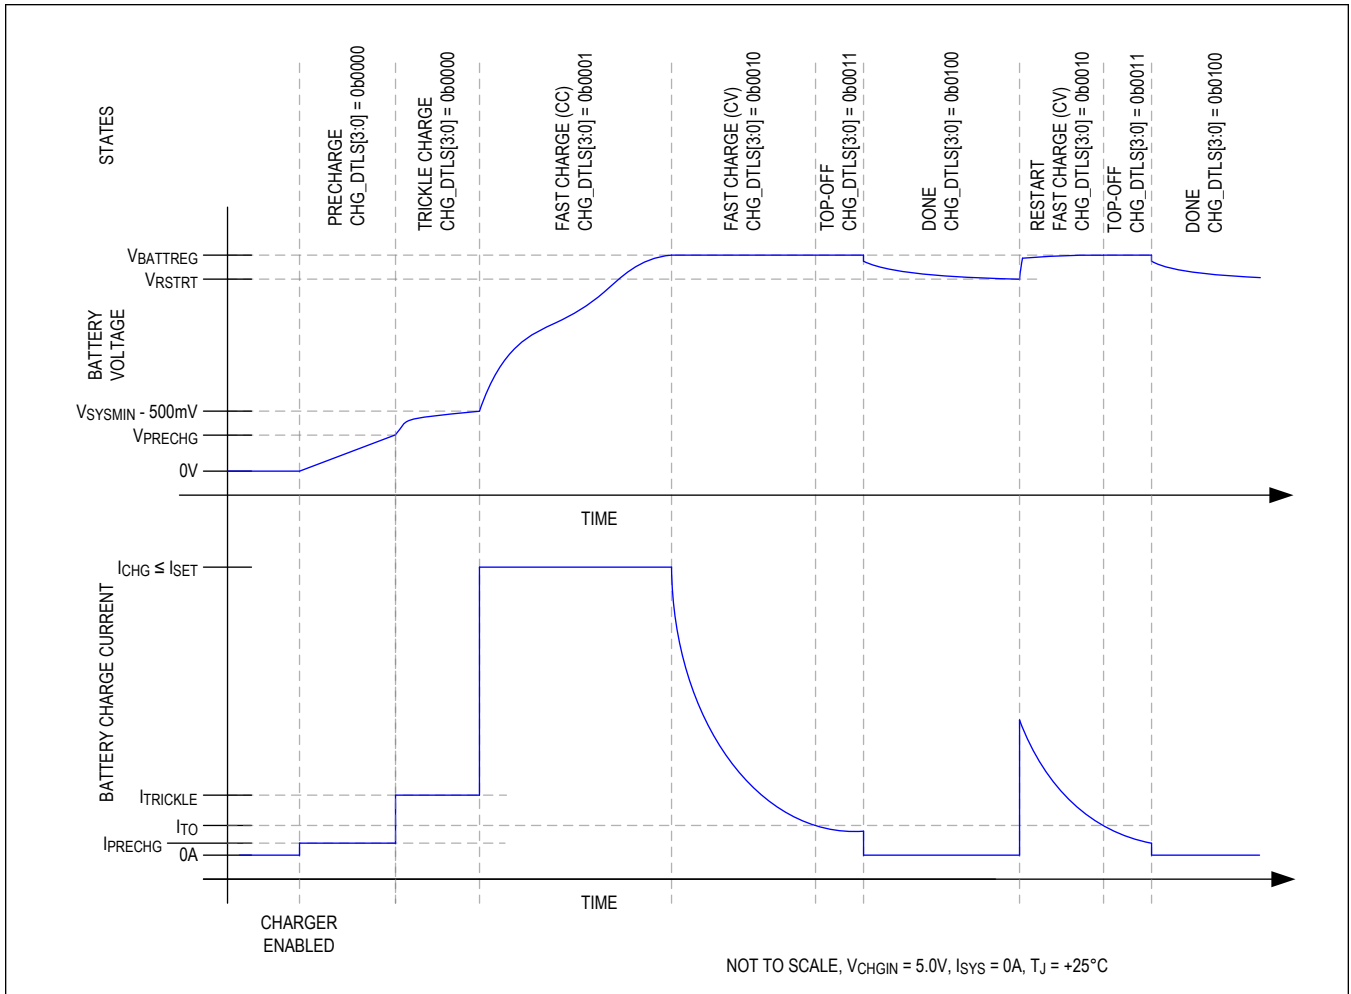
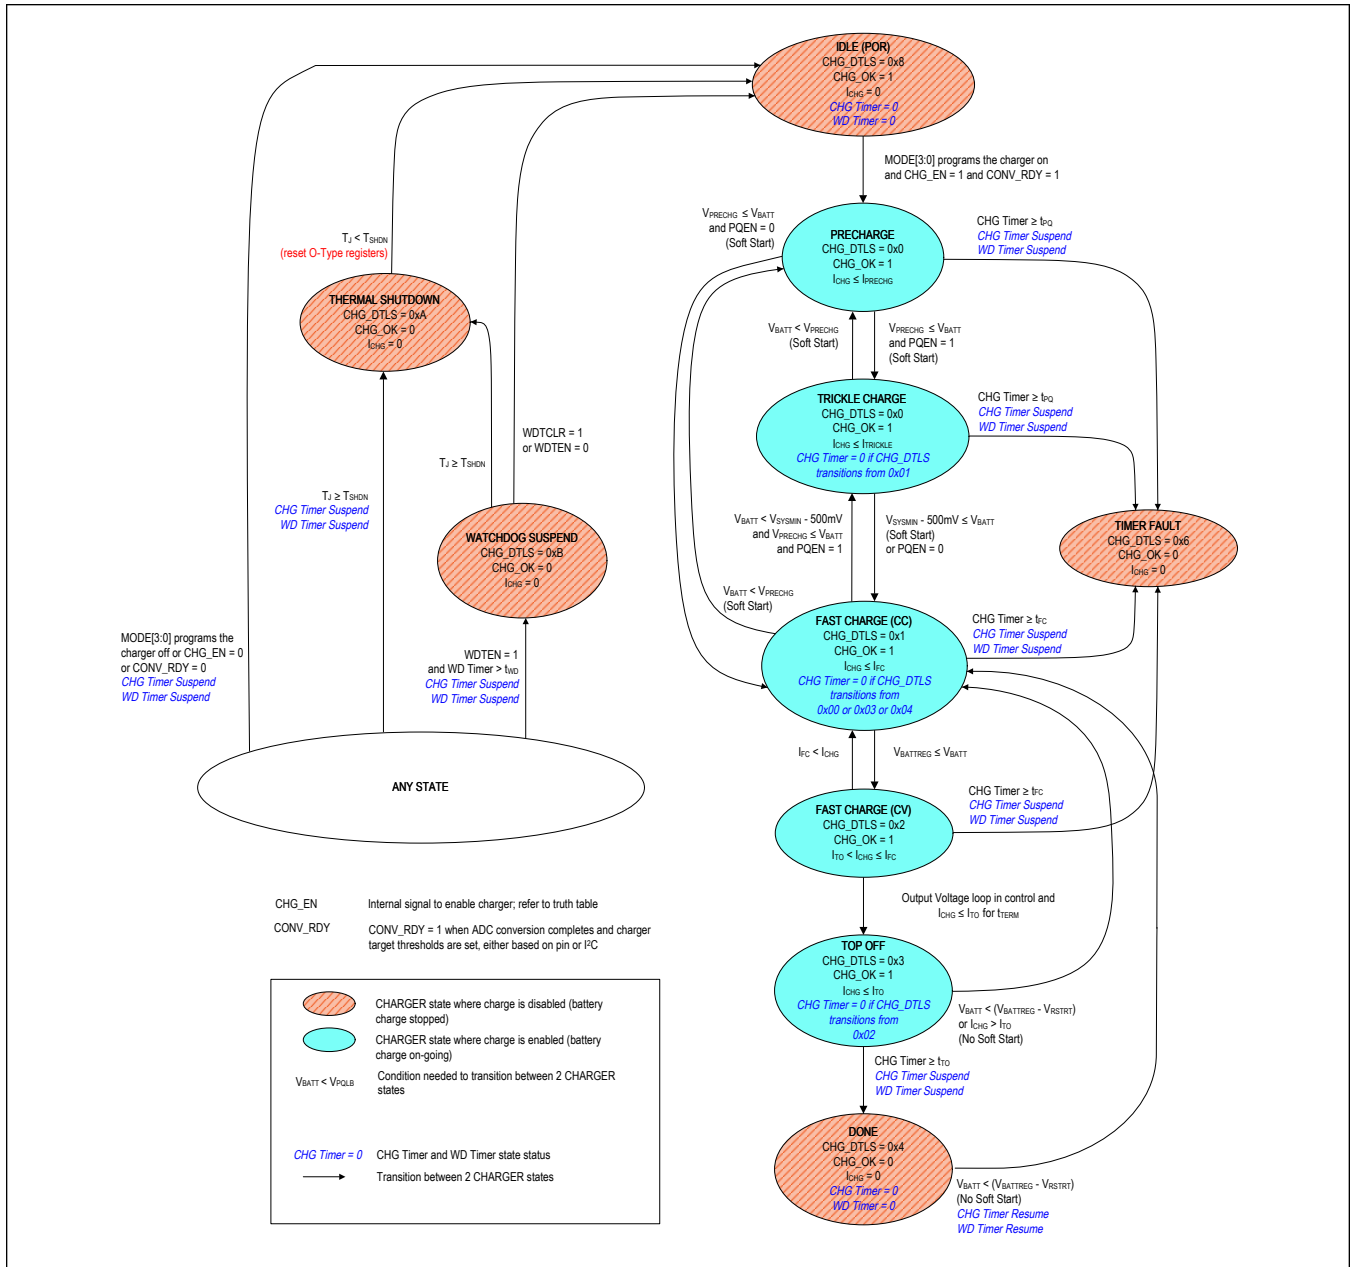

Figure 1. Li Battery Charge Profile
Figure 2. Charger State Diagram
The MAX77960/MAX77961 utilize several charging states to safely and quickly charge batteries as shown in Figure 1 and Figure 2. Figure 1 shows an exaggerated view of a Li+/Li-Poly battery progressing through the following charge states when there is no system load and the die and battery are close to room temperature: Prequalification → Fast-charge → Top-off → Done.
From any state shown in Figure 2 except thermal shutdown, the no input power or charger disabled state is entered whenever the charger is programmed to be off or the charger input CHGIN is invalid. After being in this state for tSCIDG, CHG\_DTLS is set to 0x08 and CHG\_OK is set to 1. A CHG\_I interrupt is generated if CHG\_OK was 0 previously.
As shown in Figure 2, the charger enters the precharge state when the battery voltage is less than  $V_{PRECHG}$ . After being in this state for  $t_{SCIDG}$ , a CHG\_I interrupt is generated if CHG\_OK was 0 previously, CHG\_OK is set to 1 and CHG\_DTLS is set to 0x00. In the precharge state, charge current into the battery is  $I_{PRECHG}$ .
As shown in Figure 2, the charger state machine is in trickle charge state when  $V_{PRECHG} < V_{BATT} < V_{SYSTEMIN} - 500mV$ . After being in this state for  $t_{SCIDG}$ , a CHG\_I interrupt is generated if CHG\_OK was 0 previously, CHG\_OK is set to 1 and CHG\_DTLS = 0x00.
As shown in Figure 2, the charger enters the fast-charge constant current (CC) state when  $V_{SYSTEMIN} - 500mV$  (typ) <  $V_{BATT} < V_{BATTREG}$ . After being in the fast-charge CC state for  $t_{SCIDG}$ , a CHG\_I interrupt is generated if CHG\_OK was 0 previously, CHG\_OK is set to 1 and CHG\_DTLS = 0x01.
As shown in Figure 2, the charger enters the fast-charge constant voltage (CV) state when the battery voltage rises to  $V_{\text{BATTREG}}$  from the fast-charge CC state. After being in the fast-charge CV state for  $t_{\text{SCIDG}}$ , a CHG\_I interrupt is generated if CHG\_OK was 0 previously, CHG\_OK is set to 1 and CHG\_DTLS = 0x02.
In the fast-charge CV state, the battery charger maintains  $V_{\text{BATTREG}}$  across the battery and the charge current is less than or equal to  $I_{\text{FC}}$ . As shown in Figure 1, charger current decreases exponentially in this state as the battery becomes fully charged.
As shown in Figure 2, the top-off state can only be entered from the fast-charge CV state when the charger current decreases below  $I_{\text{TO}}$  for  $t_{\text{TERM}}$ . After being in the top-off state for  $t_{\text{SCIDG}}$ , a CHG\_I interrupt is generated if CHG\_OK was 0 previously, CHG\_OK is set to 1, and CHG\_DTLS = 0x03. In the top-off state the battery charger maintains  $V_{\text{BATTREG}}$  across the battery and typically the charge current is less than or equal to  $I_{\text{TO}}$ .
As shown in Figure 2, the battery charger enters its done state after the charger has been in the top-off state for  $t_{TO}$ . After being in this state for  $t_{SCIDG}$ , a CHG\_I interrupt is generated only if CHG\_OK was 0 previously, CHG\_OK is set to 0 and CHG\_DTLS = 0x04.
The battery charger provides both a charge timer and a watchdog timer to ensure safe charging. As shown in Figure 2, the charge timer prevents the battery from charging indefinitely. The time that the charger is allowed to remain in its prequalification states is  $t_{PQ}$ . The time that the charger is allowed to remain in the fast-charge CC and CV states is  $t_{FC}$ , which is programmable with FCHGTIME. Finally the time that the charger is in the top-off state is  $t_{TO}$  which is programmable with TO\_TIME. Upon entering the timer fault state a CHG\_I interrupt is generated without a delay, CHG\_OK is cleared and CHG\_DTLS = 0x06.
The charger is off in the timer fault state. The charger can exit the timer fault state when the charger is programmed to be off then on again through the MODE bits or when DISQBAT pin is toggled from L-H-L. Alternatively, the charger input can be removed and reinserted to exit the timer fault state (see the ANY STATE bubble in Figure 2).
The battery charger provides both a charge timer and a watchdog timer to ensure safe charging. As shown in Figure 2, the watchdog timer protects the battery from charging indefinitely in the event that the host hangs or otherwise cannot communicate correctly. The watchdog timer is disabled by default with WDTEN = 0. Enable the feature by setting WDTEN = 1. With watchdog timer enabled, the host controller must reset the watchdog timer within the timer period ( $t_{WD}$ ) in order for the charger to operate properly. Reset the watchdog timer by programming WDTCLR = 0x01.
As shown in Figure 2, the state machine enters the thermal shutdown state when the junction temperature ( $T_J$ ) exceeds the device's thermal shutdown threshold ( $T_{SHDN}$ ). When  $T_J$  is close to  $T_{SHDN}$ , the charger would have already folded back the input current to 0A, (see the Thermal Foldback section for more details), so the charger and the DC-DC are effectively off. Upon entering this state, CHG\_I interrupt is generated if CHG\_OK was 1 previously, CHG\_OK is cleared, and CHG\_DTLS = 0x0A.